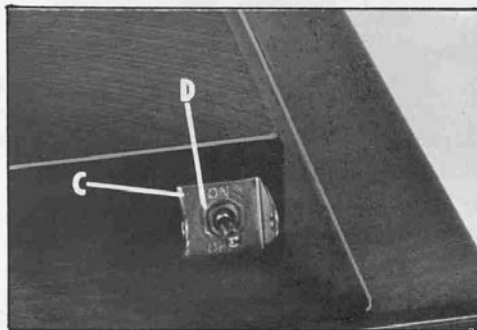

Fig. 7
3. Place the switch bracket (C) Fig. 7, on switch stem with key in switch bracket engaged with keyway in switch stem and fasten in place with hex nut (D) Fig. 7.